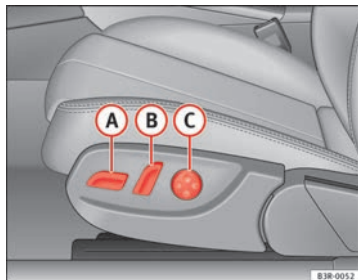
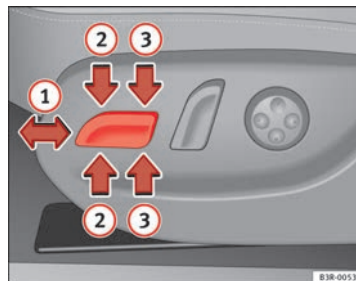

Fig. 106 Front seat: Adjuster controls
Fig. 107 Front seat: Seat adjustment switches
- Press switch (A) ⇒ fig. 106 forwards or backwards (1) ⇒ fig. 107 ⇒ ⚠.